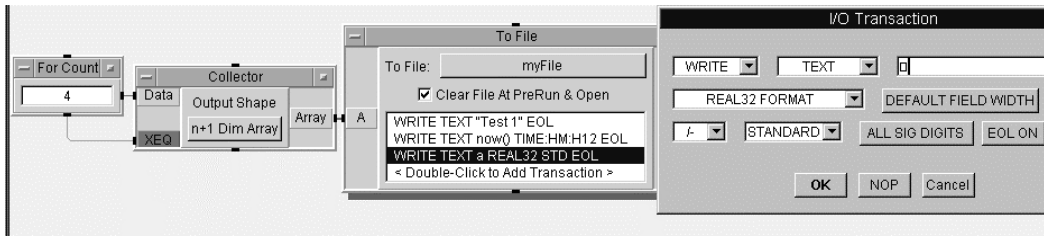

Figure 6.7. Storing data using the ToFile object
23. Click OK to close the I/O Transaction box and complete the process. The third line of the To File object will now display WRITE TEXT a REAL32 STD EOL. Figure 6.7 shows the function, its ToFile list, and its I/O Transaction box.